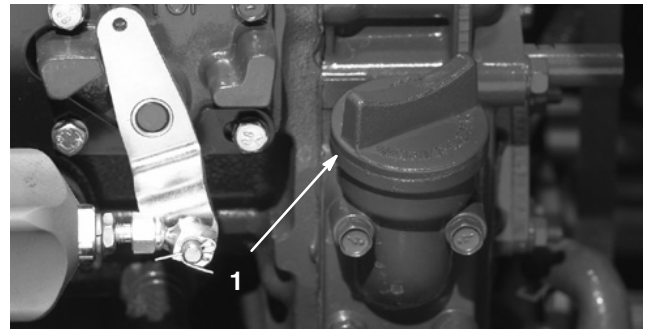

Figure 2
4. If the oil is below the FULL mark, remove the fill cap (Fig. 2) and add oil until the level reaches the FULL mark. **Do not overfill.**